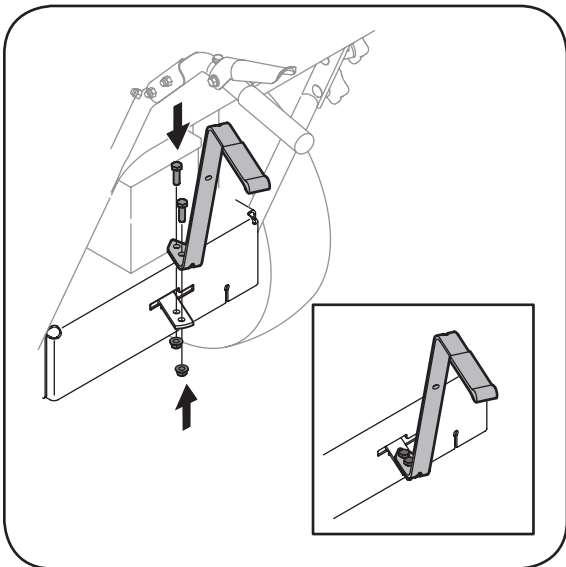

Figure 3-5: Attach the shift lever.
3. Position the upper shift lever into a vertical position aligning the holes in the lever to the holes in the shift plate, Figure 3-5.
4. Secure the lever to the plate using the two screws and two nuts removed earlier, Figure 3-5.